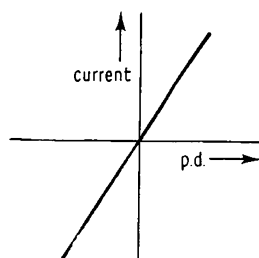

Fig. 94
99. Fig. 94 shows the graph of current/p.d. for a component in a transistor radio set. Is the component ohmic? Can you suggest what the component is?